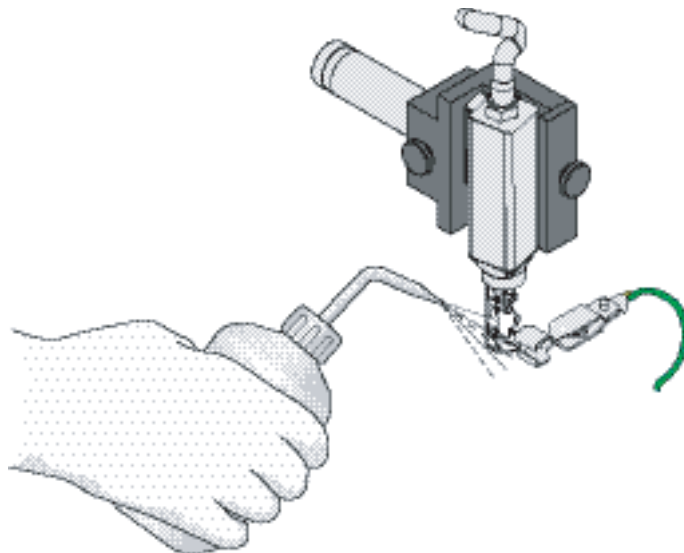

Figure 7-7: Cleaning the Printhead
- 3 Ensure that the printhead is pointed down into the grounded service tray. Flush away contaminants using the recommended Videojet cleaning solution or make-up fluid (see Figure 7-7).